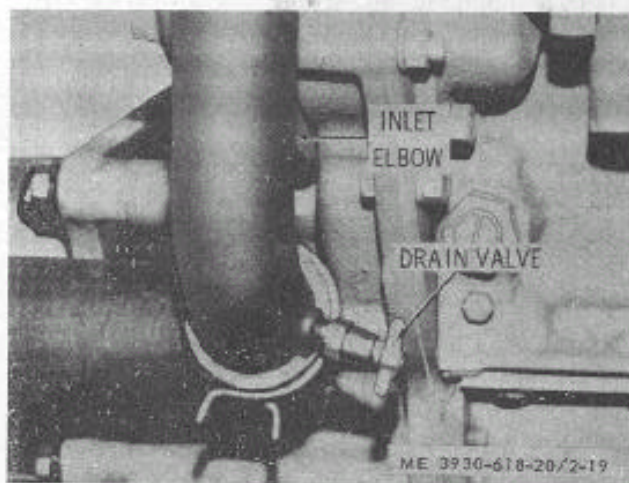
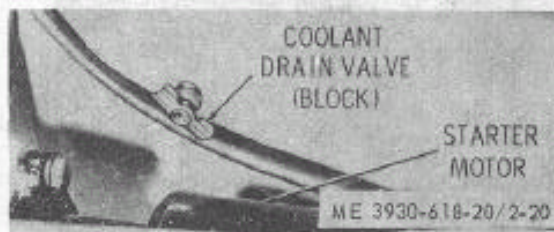

Figure 2-19. Drain valve, radiator.
Figure 2-20. Drain valve, block.
(1) To drain the cooling system remove the radiator cap and open the drain cocks (fig. 2-19) and (fig. 2-20). If the cooling system is not to be refilled immediately, attach a notice to the steering wheel to warn personnel that the cooling system has been drained.
(2) After draining and before refilling, clean and flush the cooling system (*e* below). Pressure flush the radiator (*f* below) if overheating cannot be corrected by normal cleaning and flushing.
(3) Use soft water in the cooling system wherever possible. Add antifreeze or corrosion inhibitor to the water as applicable.
(4) To fill the cooling system, close the drain cocks and pour coolant into the radiator filler opening until the coolant reaches the bottom of the filler neck. Then start the engine and let it idle until the thermostat opens.